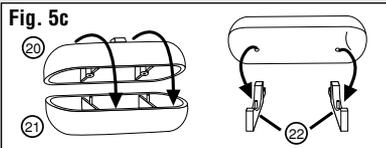
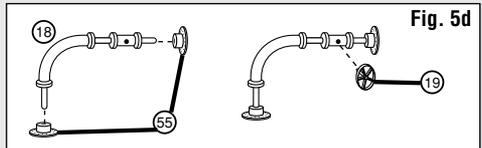

Fig. 5c
Fig. 5d
Propane Tank Assembly (Fig. 5c): Assemble and glue Propane Tank Top (20) to Propane Tank Bottom (21). Glue Assembly to Propane Tank Stand 2x (22). Glue Propane Tank Assembly to Building (Fig. 5d).
Water Pipe Assembly (Fig. 5d): Glue Water Pipe Ends (55) 2x and Valve (19) to Water Pipe (18). Glue Water Pipe Assembly to Building (Fig. 5d).